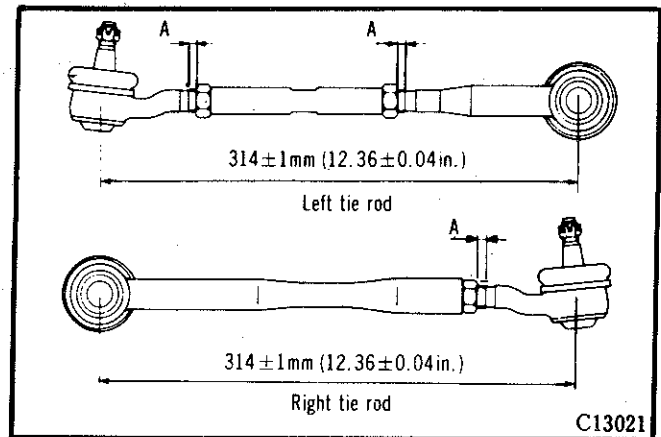

Fig. 4—Tie rod assembled dimensions
- (1) Coat the boot lip with grease and fill the inside of the dust boot with the specified type and quantity of grease before installing a new dust boot. Apply a liquid sealer to the tie rod mounting surface.
- (2) Temporarily tighten the nuts so that the specified distance is maintained between the stud bolts at both ends of each tie rod assembly (Refer Fig. 4).
- Tie rod ends should be turned in evenly so that dimensions 'A' (Fig. 4) are similar.